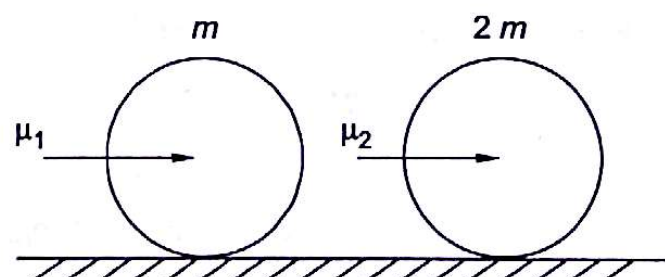

Fig. 21.17
- 21.10 A ball of mass m moves with velocity $u_1 = 4$ m/s impacts with a ball of mass $2m$, which is moving with velocity 2 m/s. The impact is perfectly elastic. What is the velocity of mass m after impact (Fig. 21.17)?